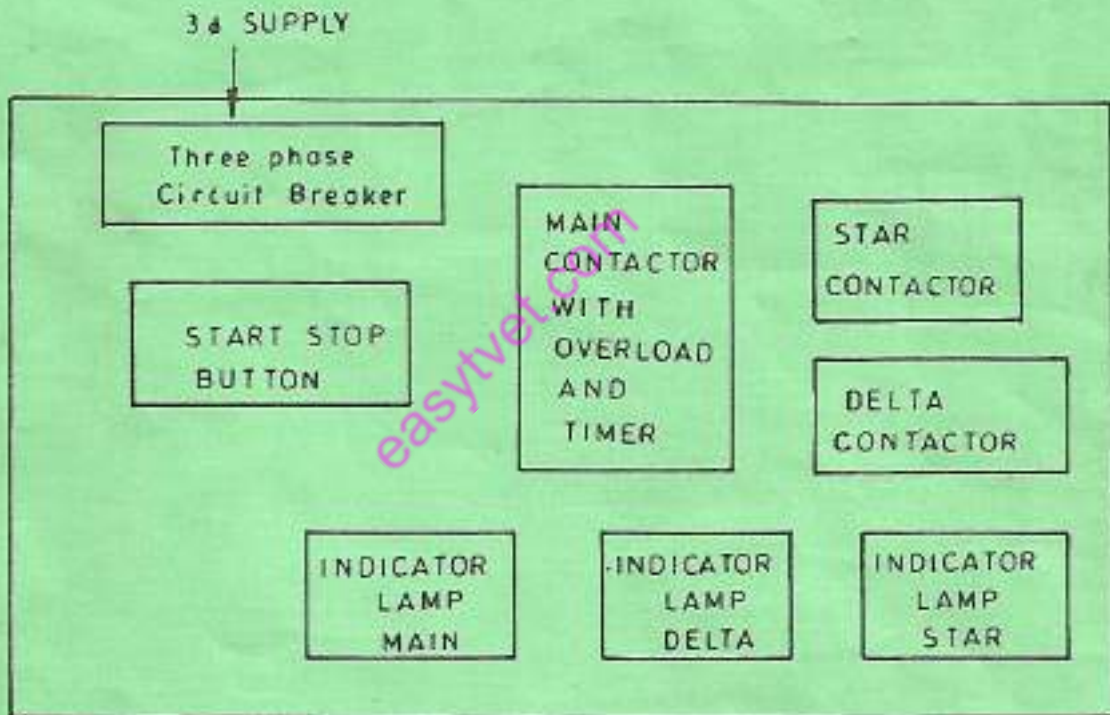

Fig. 2
2. Figure 2 shows the layout of a three phase star-delta motor control equipment. All the control devices are pre-installed on a wooden surface.